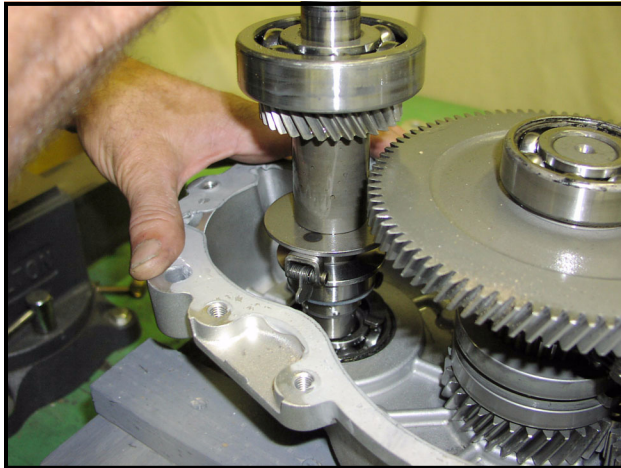

Figure 8-86 Install Input Shaft
10. Install the input shaft into the bearing in the case cavity (**Figure 8-86, Page 8-25**). See following **CAUTION**.